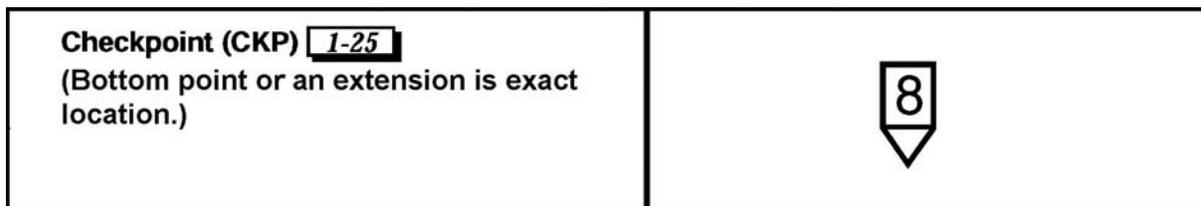

Figure 071-332-5000-24. Checkpoint.
- (8) Contact points. Contact points, shown graphically by squares with a staff extending from the bottom center, are designated at the units to make physical contact. Contact points may also be used to delineate areas of responsibility in specific localities when boundaries are obviously unsuitable, such as between elements of a flank guard (figure 071-332-5000-25).